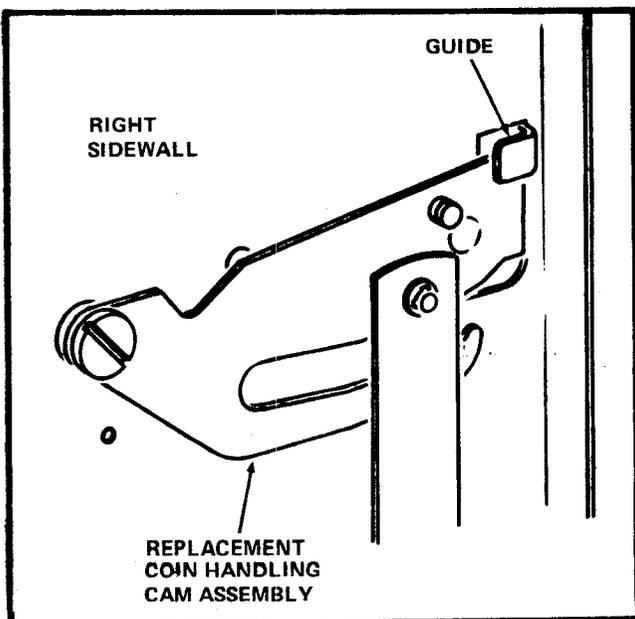

FIGURE 3
*Be sure the replacement Coin Handling Cam Assembly is under the Guide on the Right Sidewall before the Retaining Ring is installed. See Figure 3.*